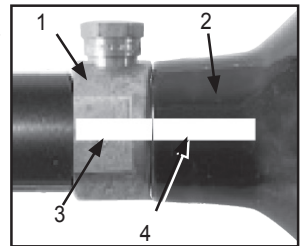

Figure 9: Properly marked Valve and Cylinder
**The brass or nickel plated cylinder valve (Figure 9, #1) is intended to be permanently attached to the air or CO2 cylinder (2). An air or CO2 cylinder can fly off with enough force to cause serious injury or death if the cylinder (2) unscrews from a cylinder valve (1).**
Refer to Figure 9. There have been reported incidents caused by players unknowingly unscrewing the cylinder (2) from the cylinder valve (1). This occurs when the player thinks the entire valve-cylinder assembly is being unscrewed from the air/CO2 adapter of the paintball marker, when in fact he or she is unscrewing the cylinder from the cylinder valve.
To avoid this danger, it is recommended (if your cylinder is not already marked) that you use paint or nail polish to place a mark (3) on the cylinder valve, and place another mark (4) on the cylinder, in line with the #3 mark as shown in Figure 9.
4. Watch the marks on the cylinder and cylinder valve (as shown in Figure 9) as you turn the cylinder approximately  $\frac{3}{4}$  turn counterclockwise. This allows the air/CO2 valve pin to close so that no air/CO2 will enter the marker.